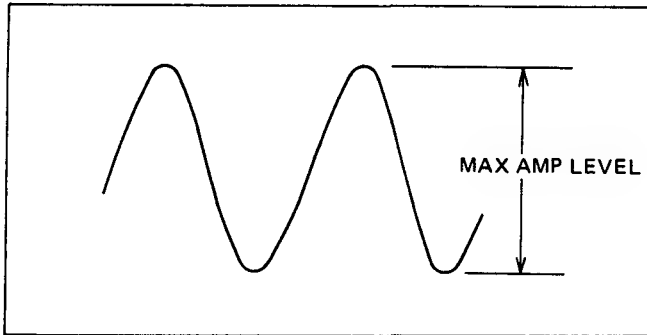

Fig. 1
- 3) Connect oscilloscope to CN6A pin 3 and observe waveform as in figure 1.